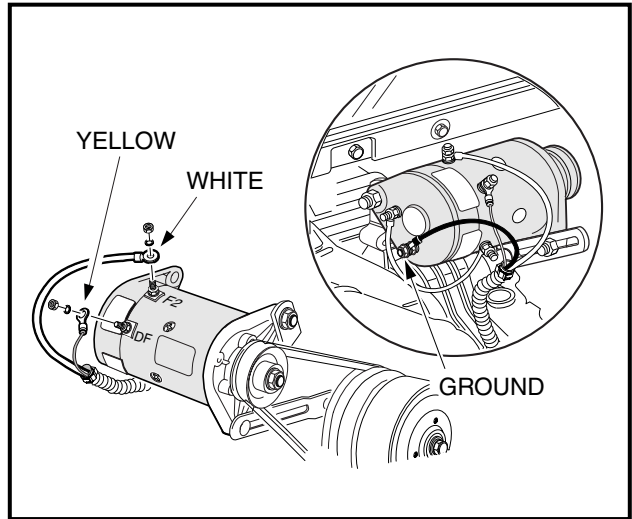

Figure 16-51 Starter/Generator
25. Connect the 6-gauge white wire to the F2 post and the 6-gauge black ground wire to the A2 post of the starter generator and tighten to 48 in-lb (5.4 N·m). Connect the 16-gauge yellow wire to the DF post and tighten to 30 in-lb (3.4 N·m) **(Figure 16-51, Page 16-21)**.